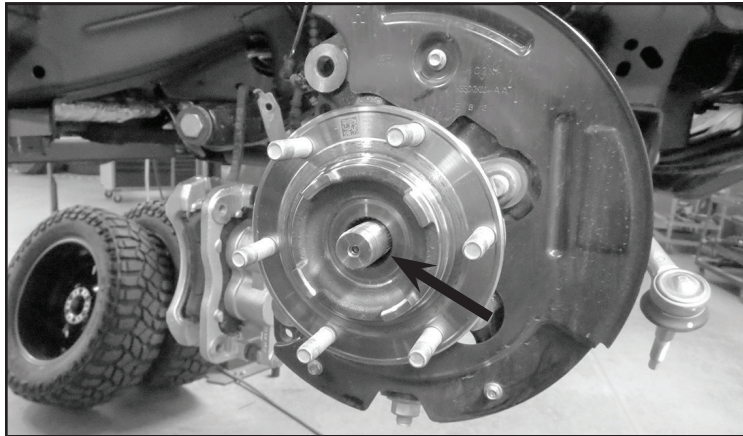

FIGURE 6 - STEP 6
6. Remove the CV axle nut and save. **SEE FIGURE 6**